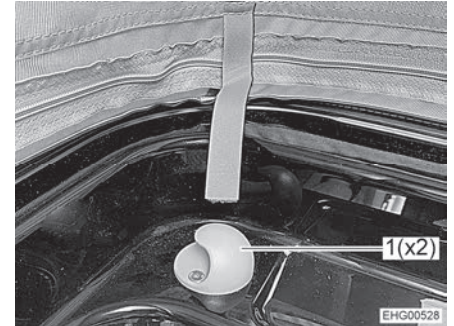

Fig. 51 Holder
- Attach the safety net to the two holders (Fig. 51,1).